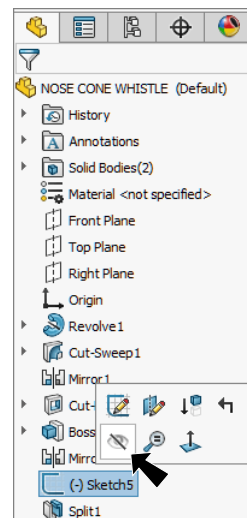

Fig. 49
Step 9. **Hide Sketch5**. To hide, click **Sketch5** in the Feature Manager and **Hide**  on the context toolbar, **Fig. 49**.